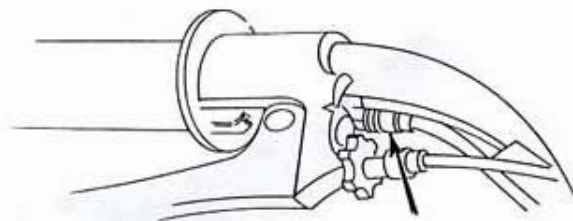

Fig. 5
- Adjust the cable tension at the decompressor adjuster on the twist grip (a small amount of free movement is required and should not exceed $\frac{1}{4}$ ", fig. 5).